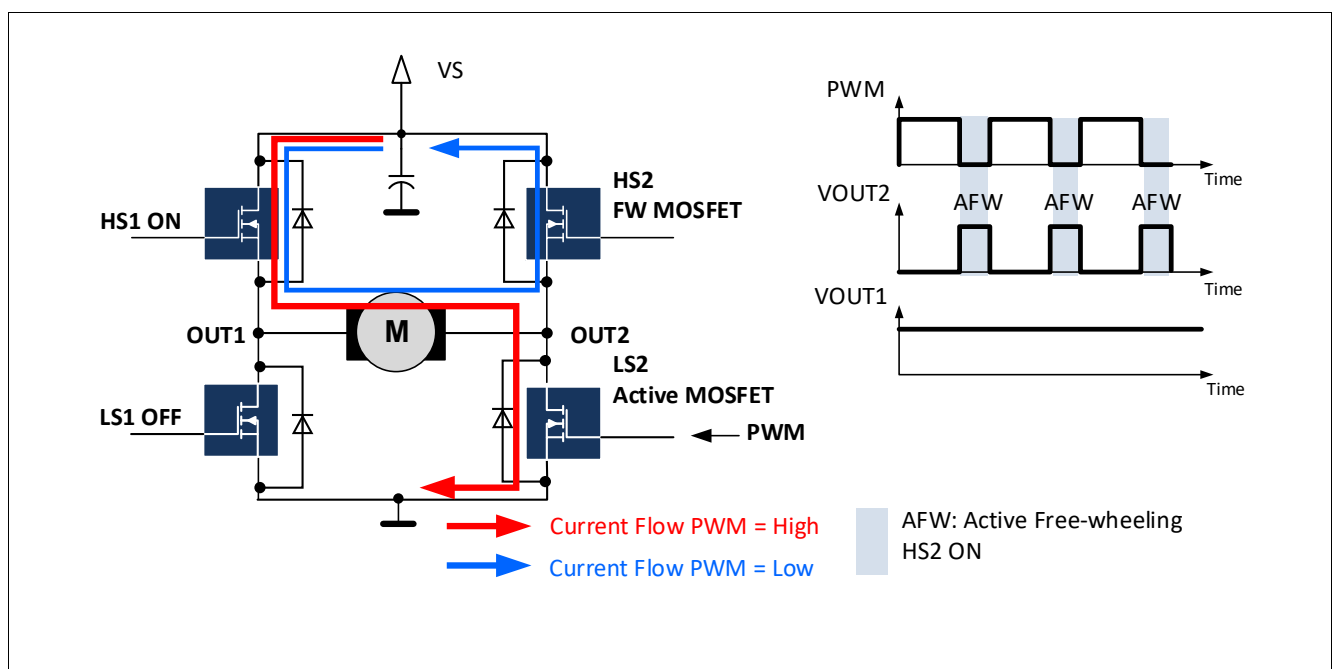

Figure 12 Active freewheeling on HB2: PWM1EN = 1. PWM applied to LS2 (HB2MODE[1:0] = 01_B).
An active free-wheeling is automatically implemented when a half-bridge is activated in PWM mode to reduce the power dissipation of the free-wheeling (FW) MOSFET: If the active MOSFET is OFF, the opposite (free-wheeling) MOSFET of the same half-bridge is actively turned on. See Figure 11, Figure 12, Figure 13, Figure 14, .